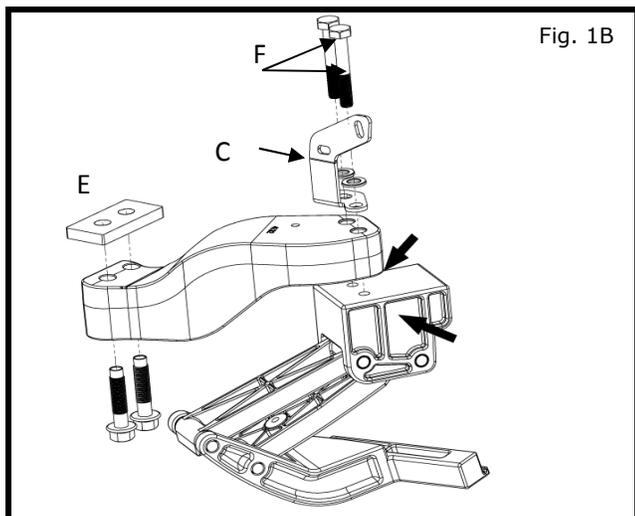

Fig. 1B
For all Titan NON-XD, and Titan XD without tow hitch, ensure step kit is assembled as shown in Fig. 1B using spacer plate (E)